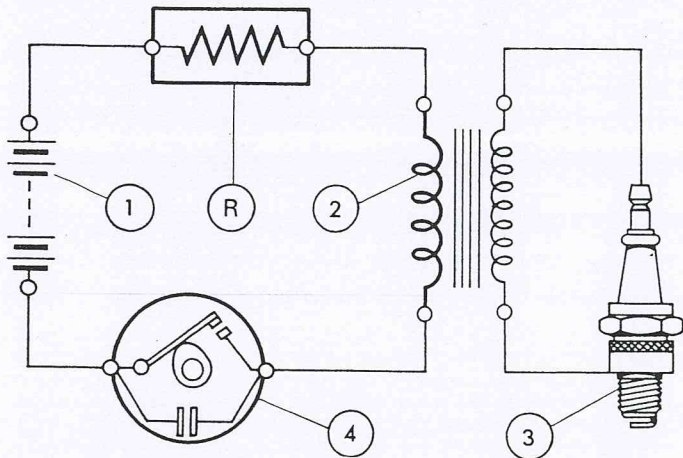
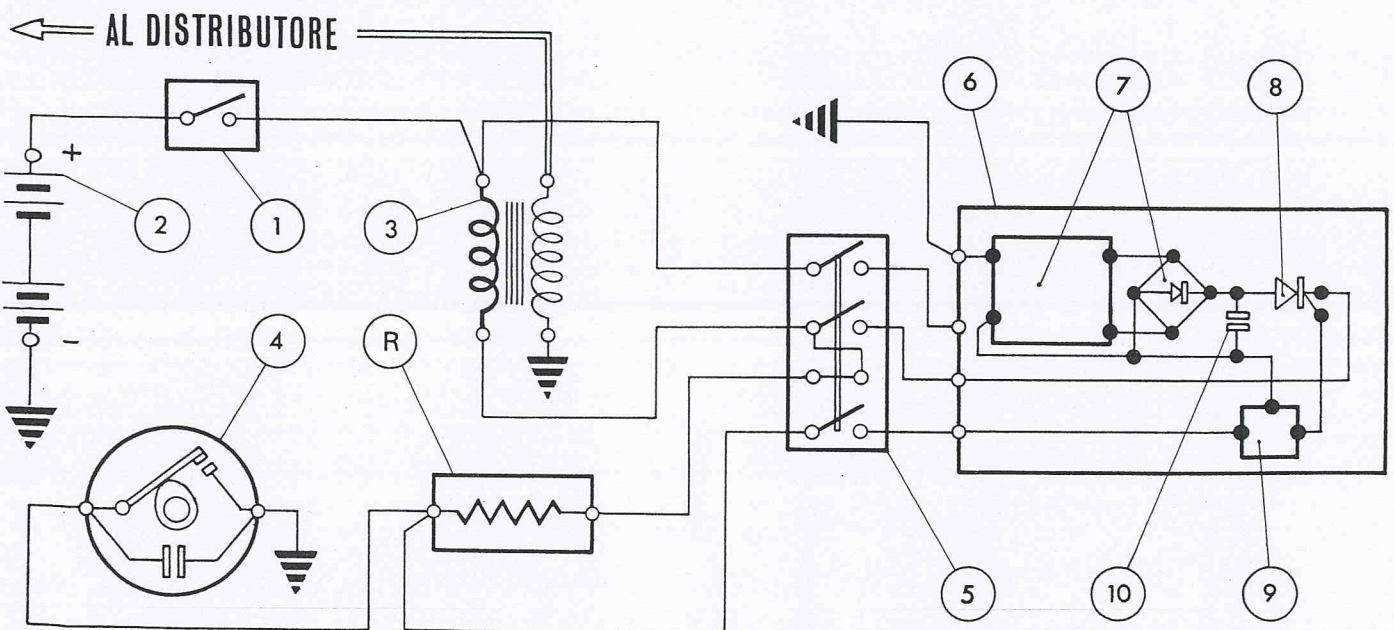

Fig. 2. - Traditional ignition system layout.
Fig. 3. - «Dinoplex C» electronic ignition system layout.
Characteristics and operation (reference to fig. 3).
Fig. 2 is the layout of the traditional ignition system; and fig. 3 the layout of the «Dinoplex C» electronic system.
- the presence of change-over switch 5, fig. 3, which permits to shift from one type of ignition to the other.
- **after stopping the engine and removing the key from lockswitch** shift the lever of change-over switch 5, fig. 3, to position « **Emergency** », start the engine and check with a road test whether the conventional ignition system is efficient both at low and at high RPM rates.